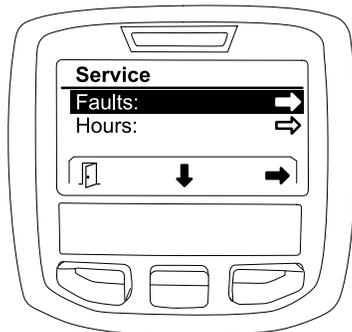

Figure 26
1. Use the middle selection button to scroll to the FAULTS option, then press the right selection button to enter into the Faults screen (Figure 26).